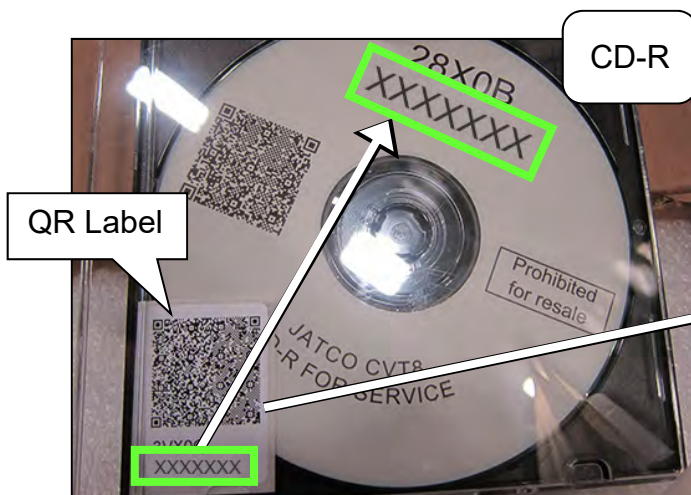
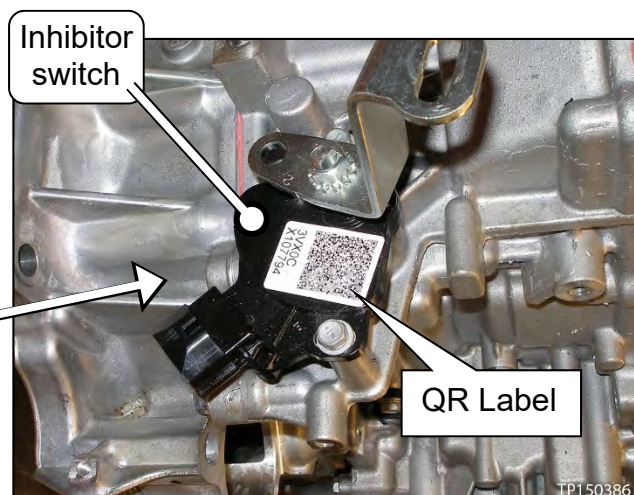

Figure 152
Figure 153
128. Attach the QR label (Figure 153) with the new calibration data onto the transmission range switch (inhibitor switch Figure 152).
- Confirm that the QR label and the CD-R part numbers are the same (Figure 153).